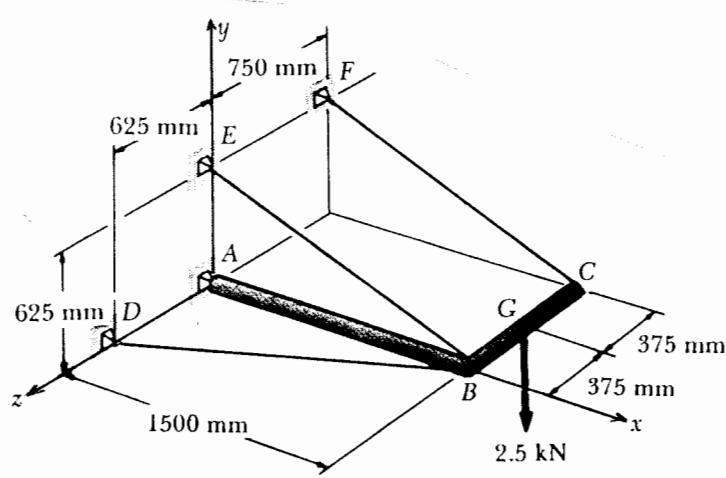

Fig. P2
- 2) The rigid L-shaped member ABC shown in Fig. P2 is supported by a ball-and-socket at A and by three cables. Determine the tension in each cable and the reaction at A caused by the 2.5 kN load applied at G. [Secs. 5.5-5.7] (20 pts.)